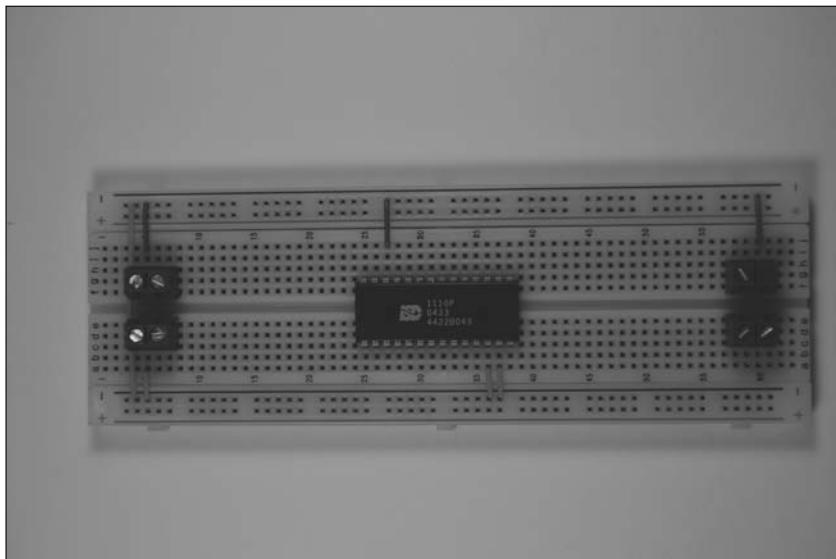

Figure 14-5:
2. Insert wires to connect each component and terminal to the ground bus and insert a wire between the two ground buses to connect them, as shown in Figure 14-5.